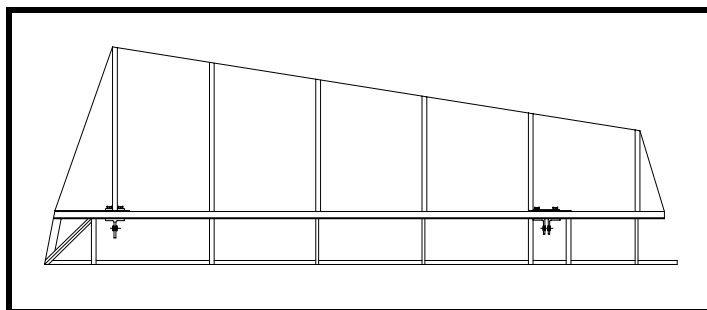

Figure 6
- ☐ Fit the trailing edge ribs for Sta. 1, 2, 3 and 4. Do not fit the Sta. 0 diagonal rib at this time. See Figure 6.